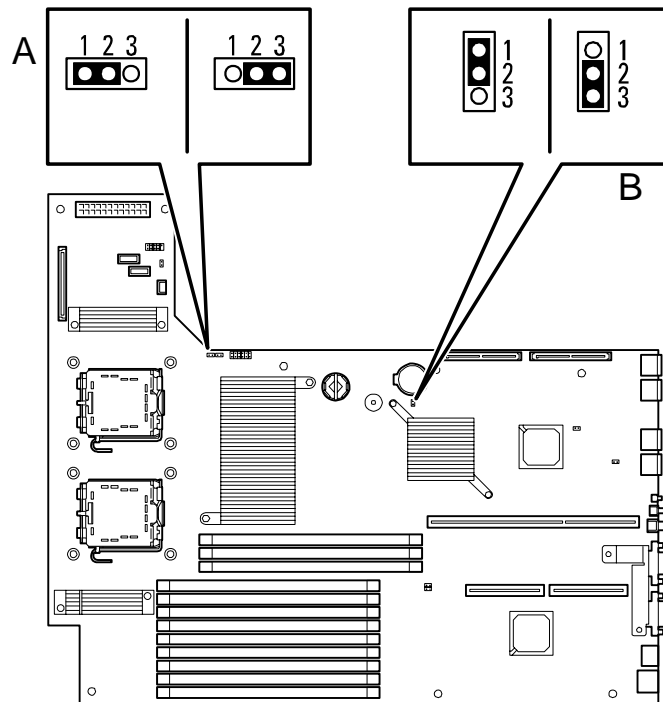

Figure 28: Clear CMOS & Clear Password Jumpers
3. Locate the position of the jumpers on the motherboard (see Figure 28: on page 100).